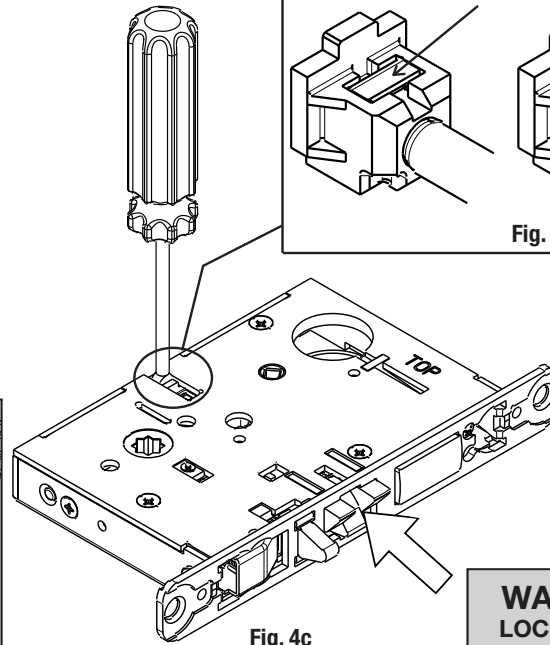

**Fig. 4d**
**NOTE:** Push in latch until catch plate is no longer depressed. (Fig. 4d)